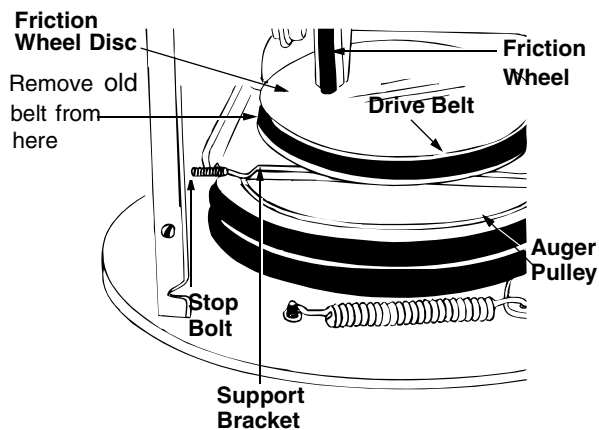

Figure 28
- Pulling the idler pulley upward, roll the belt off the idler pulley and the engine pulley and lift belt off friction wheel disc. See Figure 28.
- Back out the stop bolt until the support bracket drops on the auger pulley. See Figure 28.
- Slip belt between friction wheel and friction disc plate and remove the belt. See Figure 28.
NOTE: The support bracket must rest on the stop bolt after the new belt has been assembled. See Figure 28.